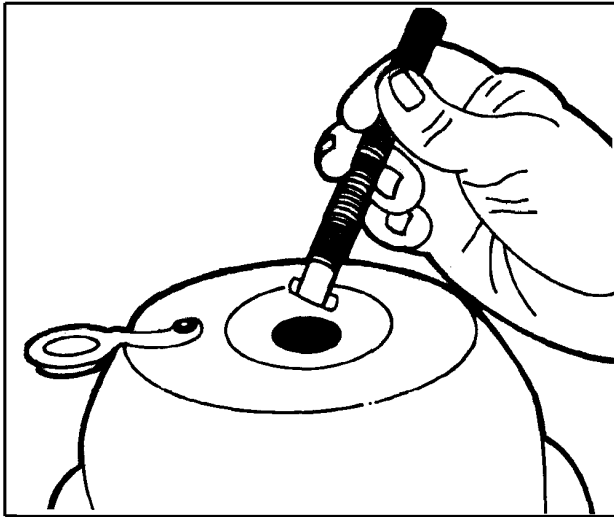

Figure 11 Insert Release Bolt
4. Insert the release bolt into the centerhole of the spring brake chamber (Figure 11(See Figure 11, page 9)) and, being sure that the formed end of the bolt has entered the hole in the piston inside the chamber, continue to insert the bolt until it bottoms out.
4. Insert the release bolt into the center hole of the head (Figure 11(See Figure 11, page 9)) and, being sure that the formed end of the bolt has entered in the piston inside the chamber, continue to insert bolt until it bottoms out.